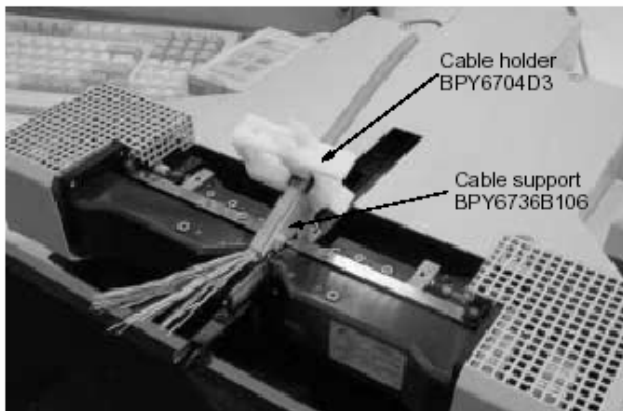

fig.3
- Place the cable in the cable holder BPY6704D3LF and cable support BPY6736B106LF, see fig.3.